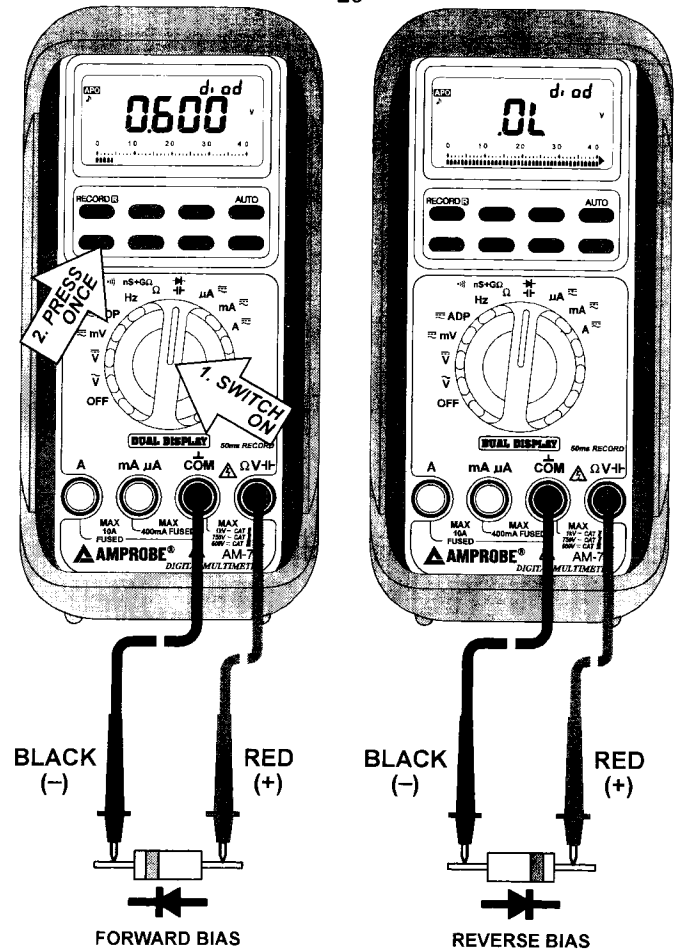

FIG 11. ✚ DIODE TEST FUNCTION
- 4) Connect the test leads as shown in **FIG 11** and observe the digital display